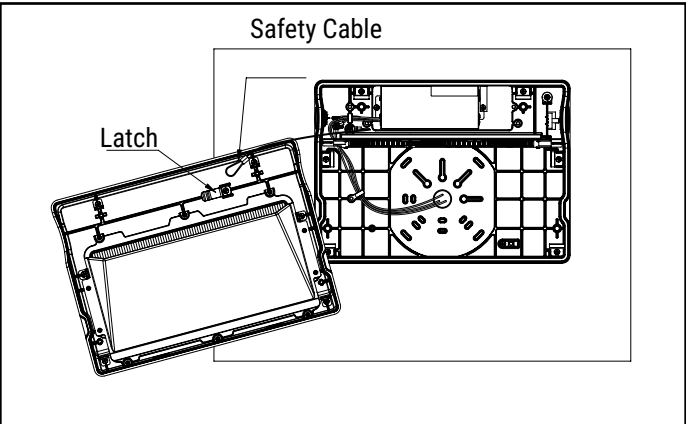

Figure 7
- 5. Secure the safety cable to the latch on the front cover of the luminaire's housing. (Figure 7)